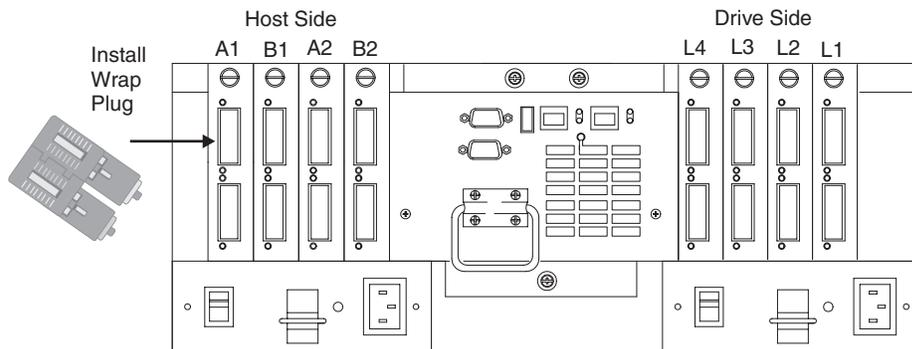

Figure 18. Install wrap plug to GBIC or SFP in mini-hub on controller A
- b. For a FAST500, DS4400, DS4500, DS4300, or DS4100 RAID controller, install a wrap plug to the GBIC or SFP in the mini-hub on controller A. See Figure 18.